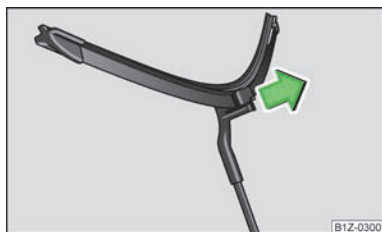

Fig. 36
- Remove the wiper blade in the direction of the arrow » Fig. 36.
- Fold the wiper arms back to the windscreen and turn on the ignition. By pressing the window wiper lever into the sprung position  » Fig. 36 or when driving at a speed greater than 4 km/h, the windscreen wiper arms move back into the rest position.